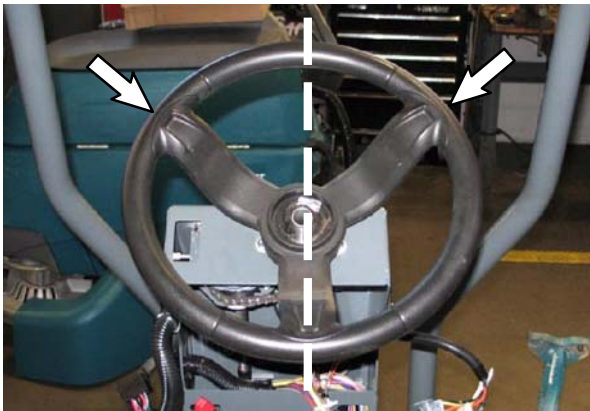

FIG. 43
18. Position the steering wheel on the steering column as shown in Fig. 43.